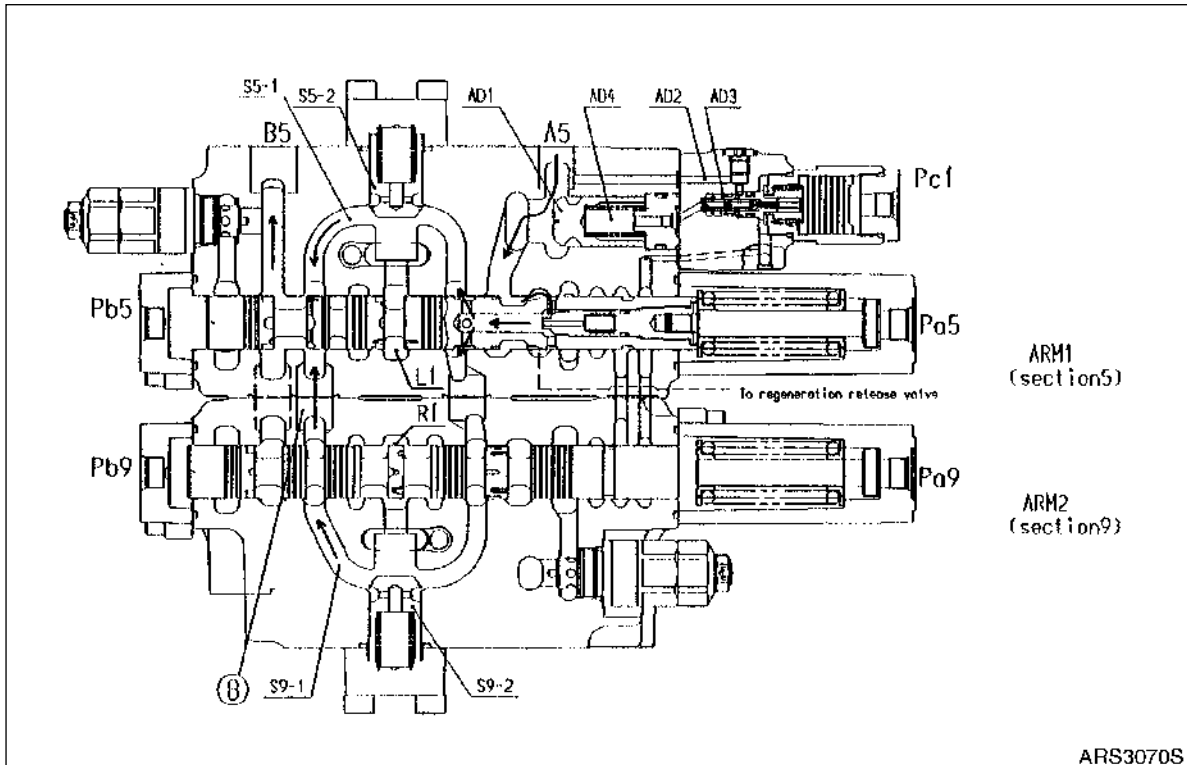

Figure 11
When the arm 1 spool is switched by increasing the pressure of the arm 1 (section 5, Figure 11) pilot port (Pb5), the oil supplied from the port (P1) flows through the neutral passage (L1), the load check valve (S5-2), the passage (S5-1) and the spool head and into the port (B5). When the arm 2 spool is switched by increasing the pressure of the arm 2 (section 9) pilot port (pb9) also, the oil supplied from the port (P2) passes through the neutral passage (R1), the load check valve (S9-1), the passage (S9-2), and the spool head and to the passage (8) and joins at the port (B5).